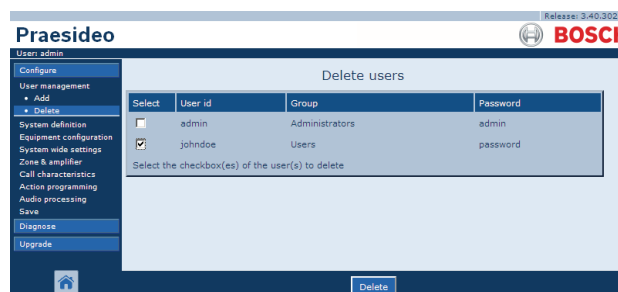

figure 42.6: Delete user, step 2.
- 2 Check the box in front of the account that has to be deleted (see figure 42.6).